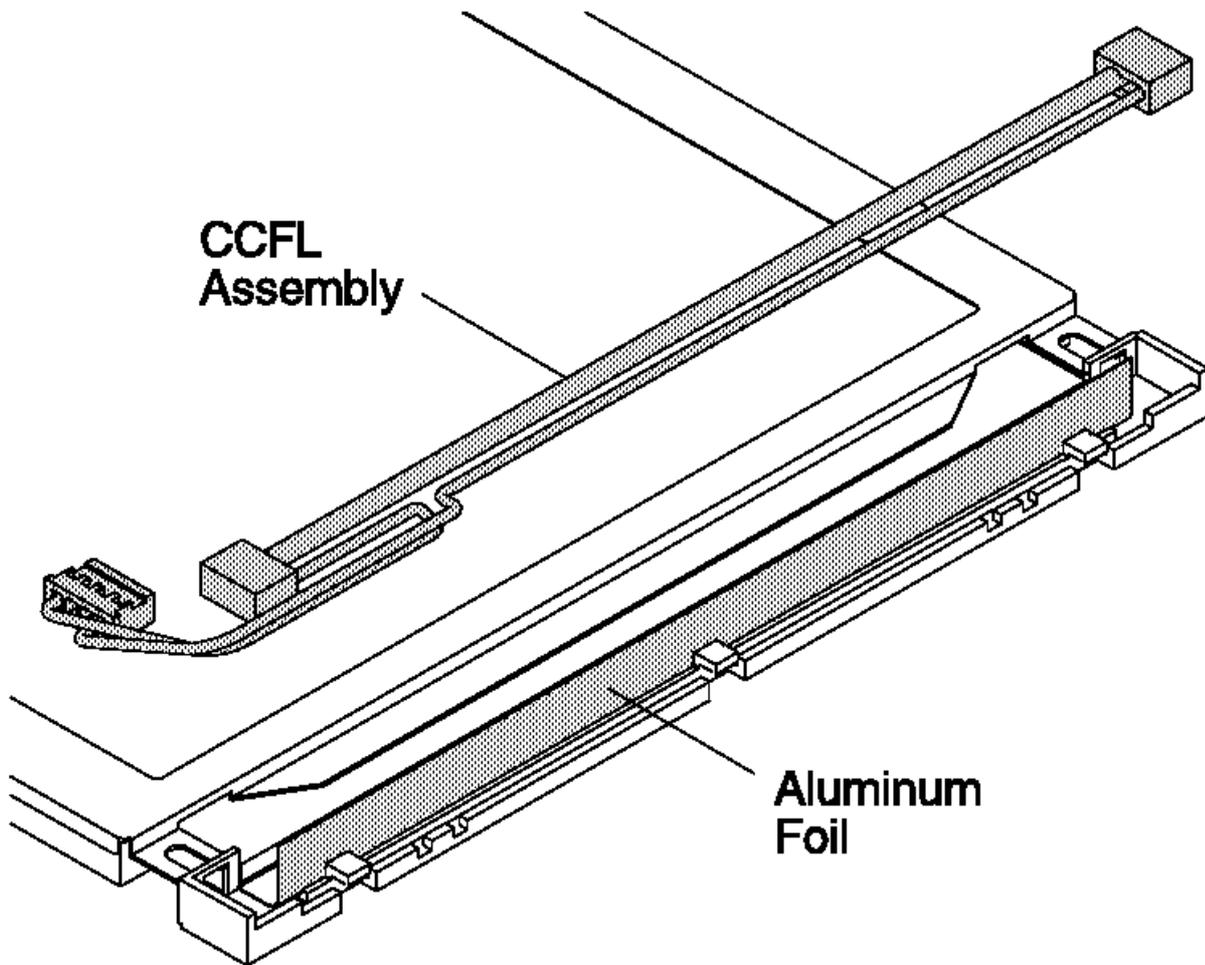

Figure 3-6. Removing the CCFL Assembly
5. Carefully lift the CCFL assembly out. See Figure 3-6.